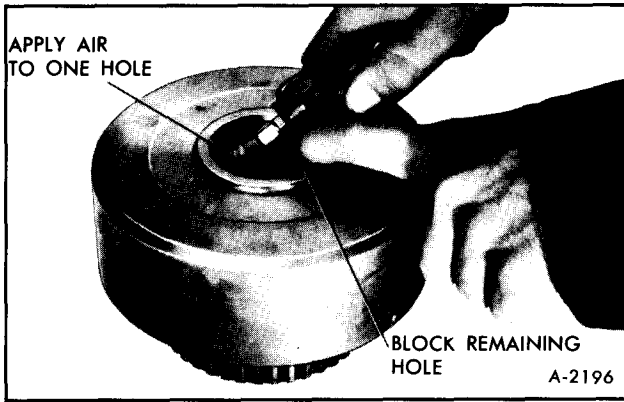

Figure 87—Air Check Forward Clutch Piston
11. Air check forward clutch and piston operation, Figure 87.